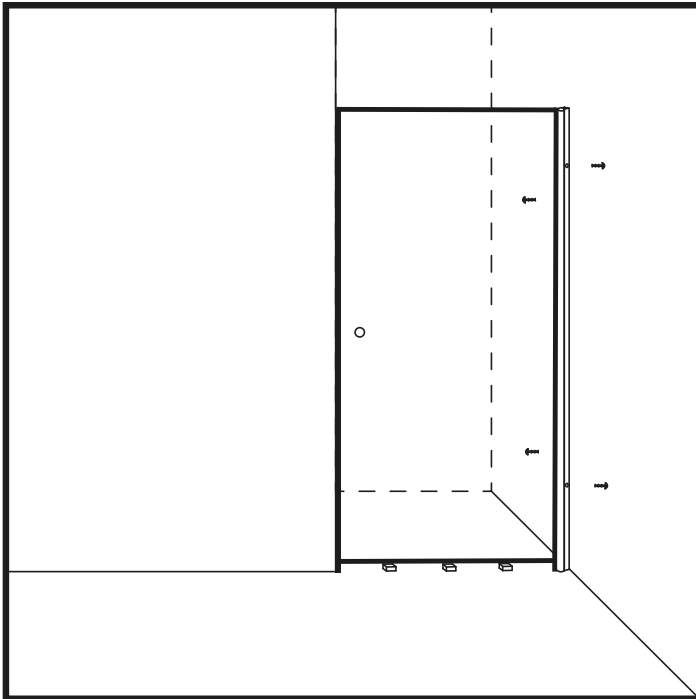

Figure 7
12. Mark the screw mounting positions on the profile from both inside and outside the shower. Measure and mark one side of the profile about 10 cm from the top and bottom, and the other side at about 20 cm. (Figure 7)